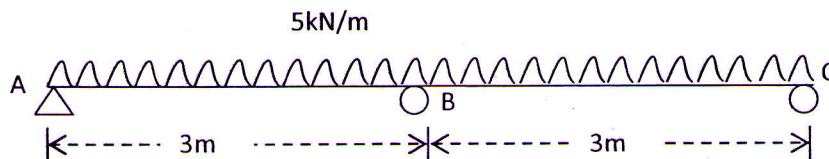

Fig.6
- 6 a) Analyse the beam shown in Fig.6 by the method of consistent deformation and draw SFD and BMD. 7.5